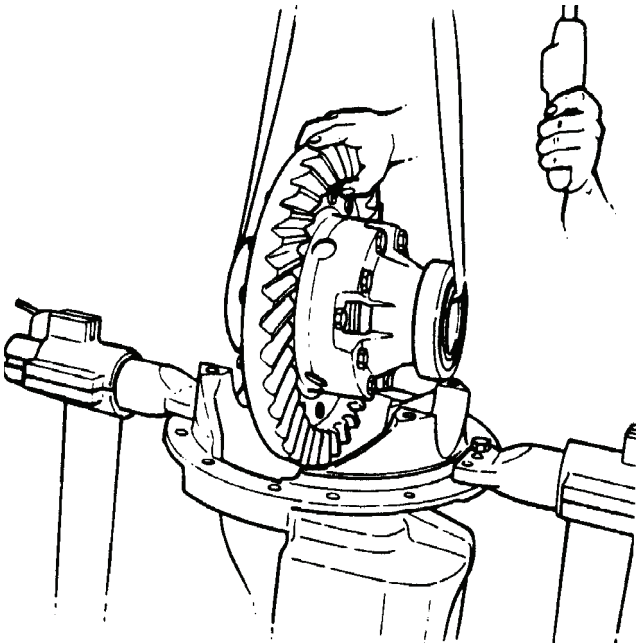

Figure 68.
- (1) Place bearing cups over assembled differential bearing cones, then position differential assembly in the carrier. Refer to Figure 68.